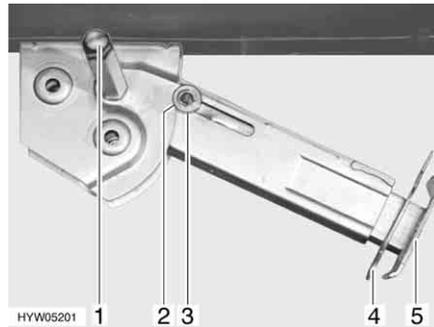

Fig. 25 Steady leg
- Place the socket spanner on the hexagonal nut (Fig. 25,1) and rotate until the steady leg is in a perpendicular downward position.
- Remove the splint (Fig. 25,4) out of the support foot extension (Fig. 25,5).
- Place the socket spanner on the hexagonal nut (Fig. 25,1) and rotate until the steady leg is clear of the ground.
- Push in the support foot extension (Fig. 25,5) and insert the splint (Fig. 25,4) in the drilled hole in the support foot extension.
- Rotate the hexagonal nut (Fig. 25,1) with the socket spanner until the steady leg has swung upwards and the guide disc (Fig. 25,3) has completely retracted into the notch (Fig. 25,2).